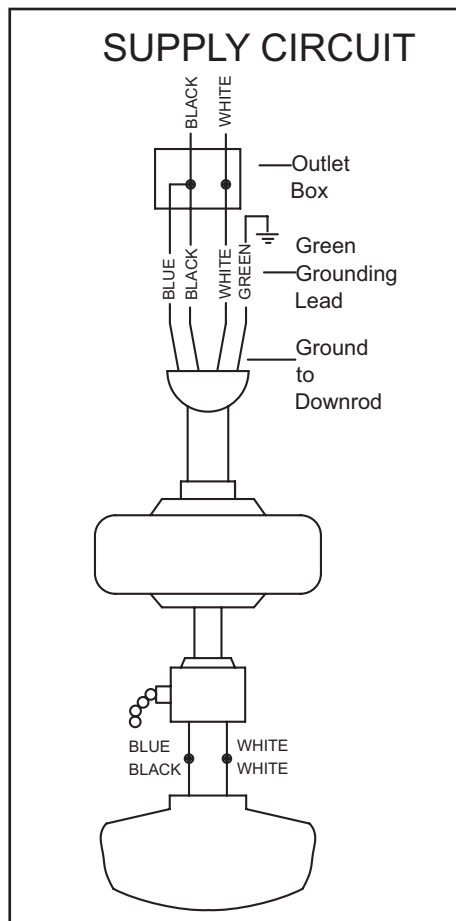

Figure 12
1. Connect the ground conductor of the 120v supply (this may be a bare wire or a wire with green insulation) to the green ground lead(s) of the fan (Figure 12). When using standard ceiling mounting, there are two green grounding leads; one from the ceiling mounting plate and one from the ball/downrod assembly. When using Close-to-Ceiling mounting, there is only one green ground lead from the mounting plate since the ball/downrod assembly is not used.
2. Connect the fan motor white wire to the supply white (neutral) wire using a wire nut (Figure 12).
3. Connect the fan motor black wire to the supply black (hot) wire using a wire nut (Figure 12).